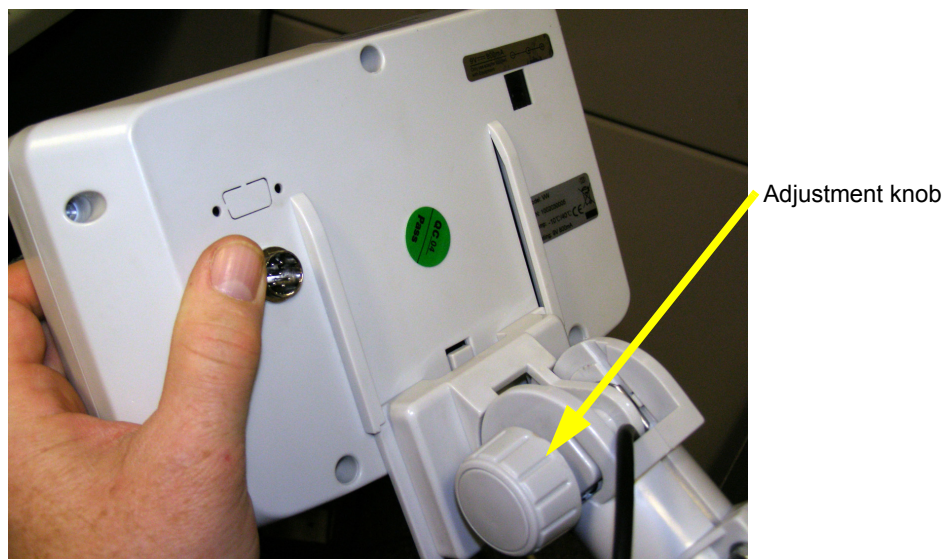

Figure 2.4 Slide indicator head onto column bracket
3. Place the indicator on the top bracket as shown in Figure 2.4 and slide it down until it snaps into the final position.
4. Loosen the adjustment knob shown in Figure 2.4 and adjust the indicator's angle for best viewing of the display, then tighten the knob.